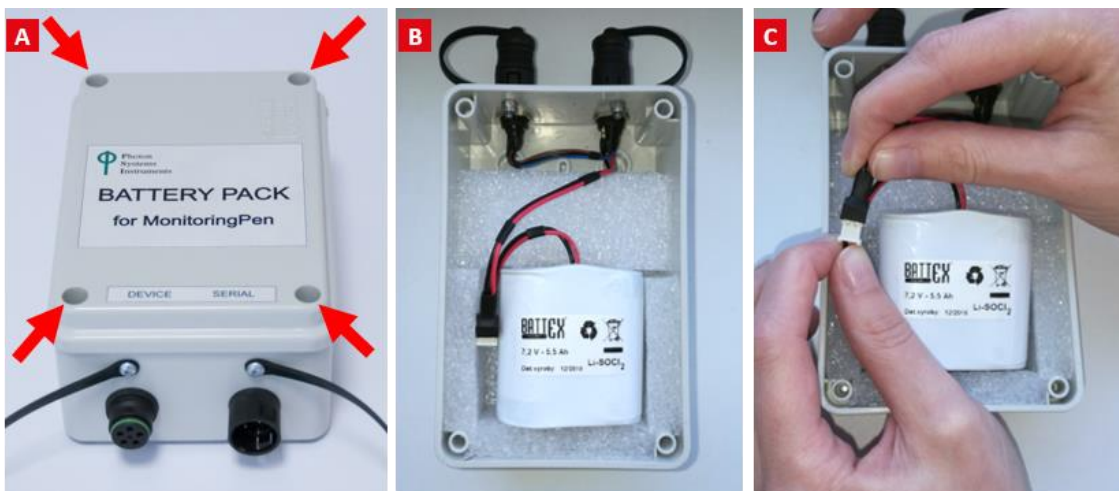

Fig. 44 Extended temperature range battery pack: battery replacement.
1. Remove 4 screws in the corner of the case and remove the battery pack cover (Fig. 44 A, B).
2. Disconnect the internal battery from the cable (Fig. 44 C).